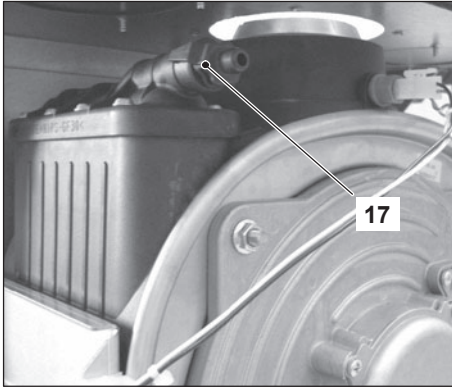

Fig. 7.2
- Unscrew the condensing heat exchanger air purger valve 17 (Fig. 7.2).
- Close the condensing heat exchanger air purger valve 17 (Fig. 7.2) when water begins to flow out.